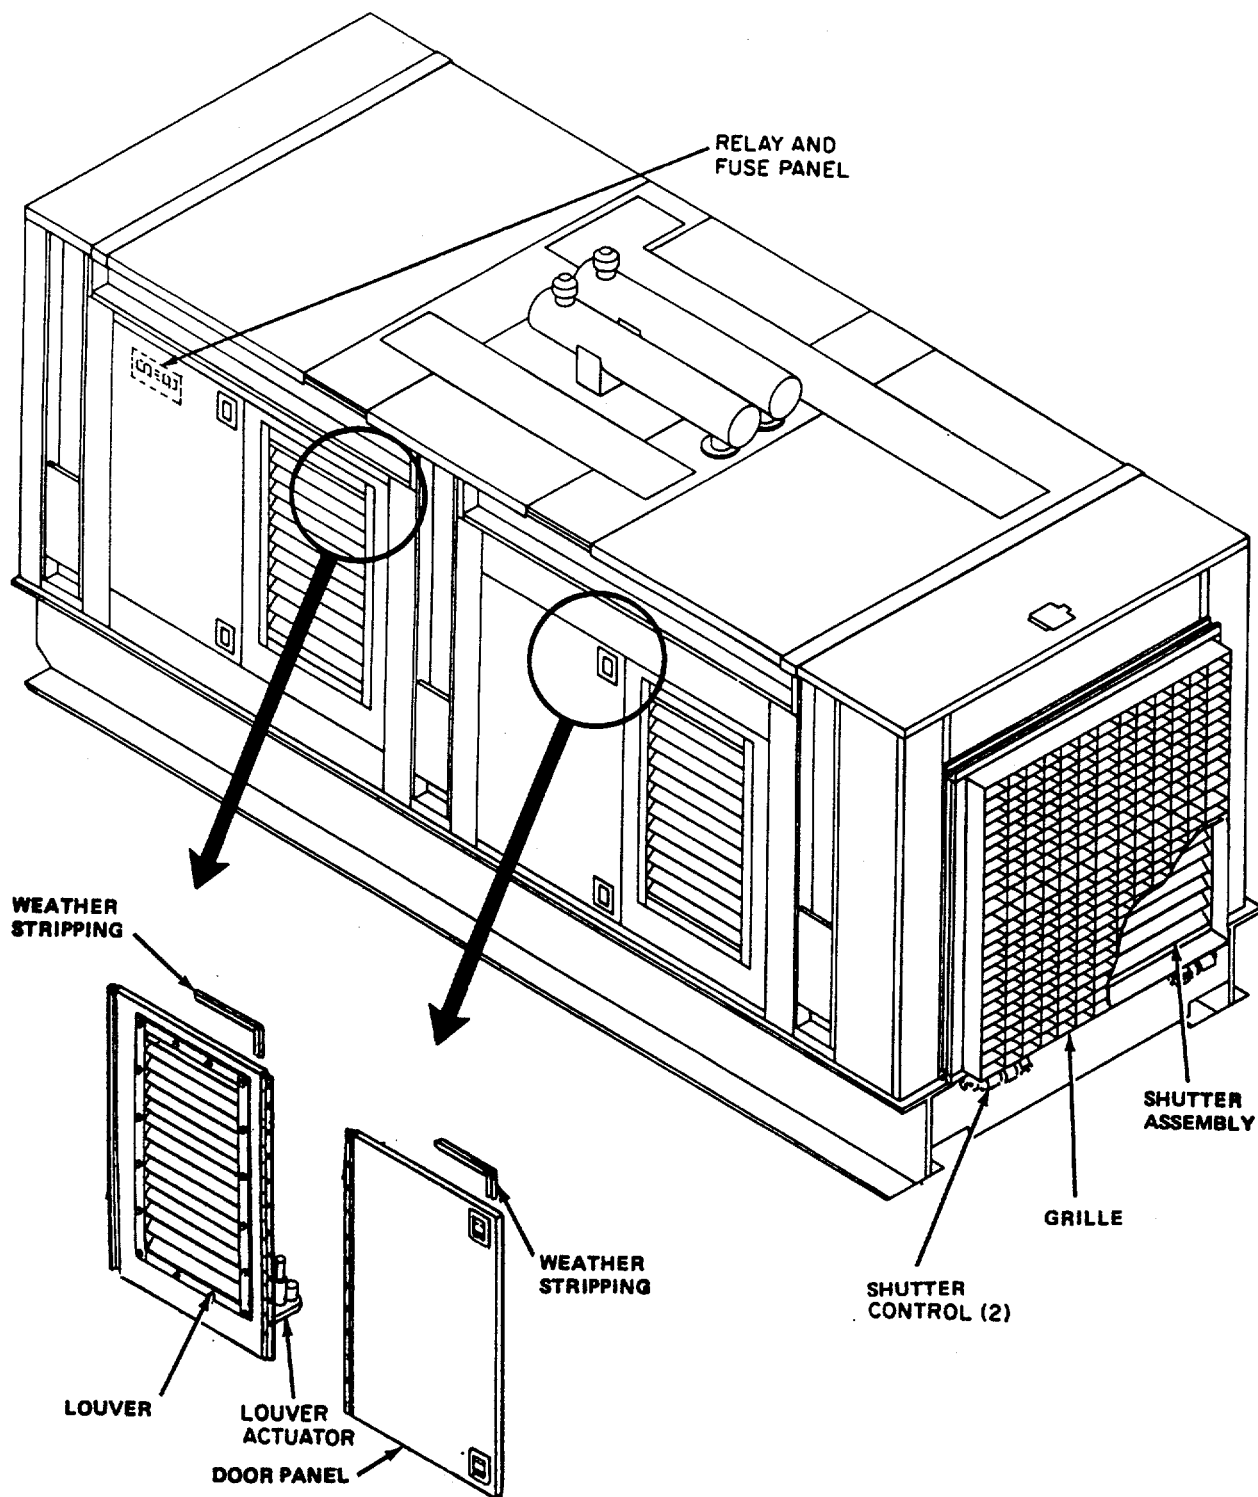

Figure 5-5. Housing Kit, Installed on Generator Set.
The shutter assembly (there are two) is automatically operated by a hydraulic control assembly (figure 5-5) through which coolant is allowed to flow. With the engine cold, the spring-loaded shutters are held closed by the control assembly. As the coolant warms, the hydraulic medium (wax) melts. The control assembly relaxes its hold and allows the shutters to open. There is a direct correlation between coolant temperature and the extent of shutter opening.
a. Inspection. (See figure 5-5.)
- (1) Inspect the louvers, door panels, and front grille for cracks, loose mounting, loose or missing hardware, rust or corrosion.
- (2) Inspect the weather stripping around each door assembly for peeling of adhesive backing, excessive wear, rot, or damage.
- (3) Inspect all connectors in the wiring harness for damaged threads, and bent, loose, or missing pins. Check all connections for security and condition. Check all wiring for defective or worn insulation.